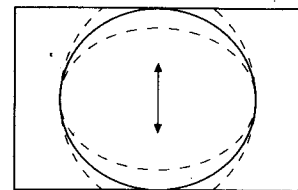

Fig. 5
- Adjust the horizontal location to obtain picture centering (fig. 5).